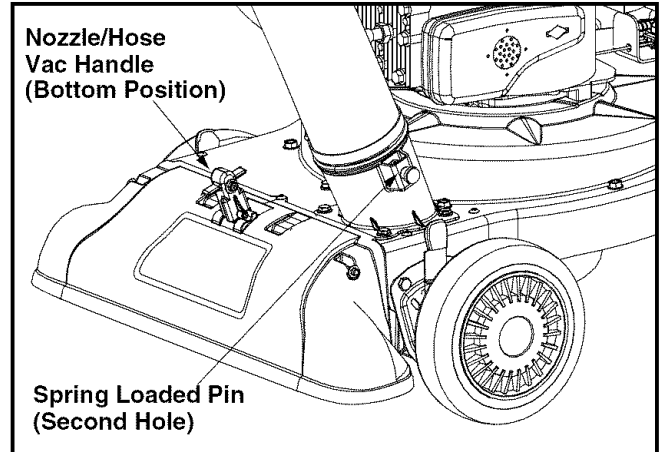

Figure 12
- Place nozzle/hose vac handle in the bottom position on the nozzle to redirect vacuum to the hose assembly. See Figure 12.